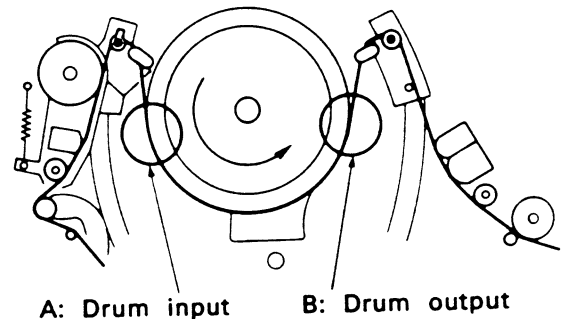
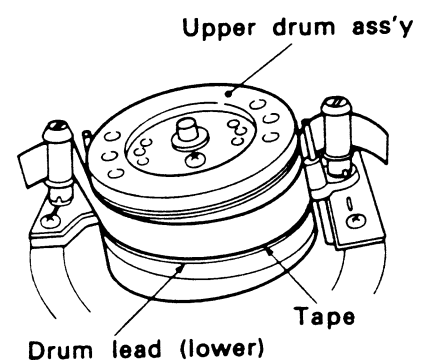

Fig.6-1 Tape transport check
Fig.6-2 Drum lead check - 1
- During PLAY mode, observe tape at the input and output portions (A and B in Fig.6-1) of the head drum lead. Confirm that the tape slips neither upward nor downward with respect to the lead as shown in Fig.6-2.